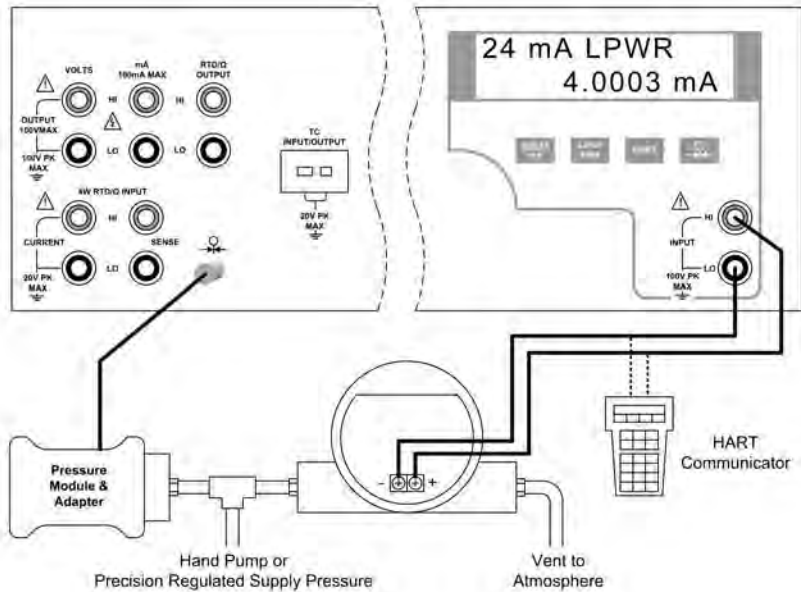

Figure 20 - P/I Transmitter Application
4. Connect the transmitter as shown in figure 20.